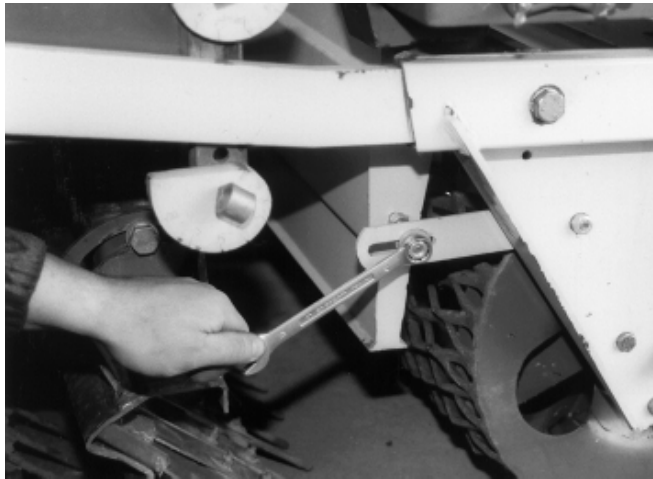

fig. 28
- Detach the two nuts M10 on both sides of the chute (Fig. 28);